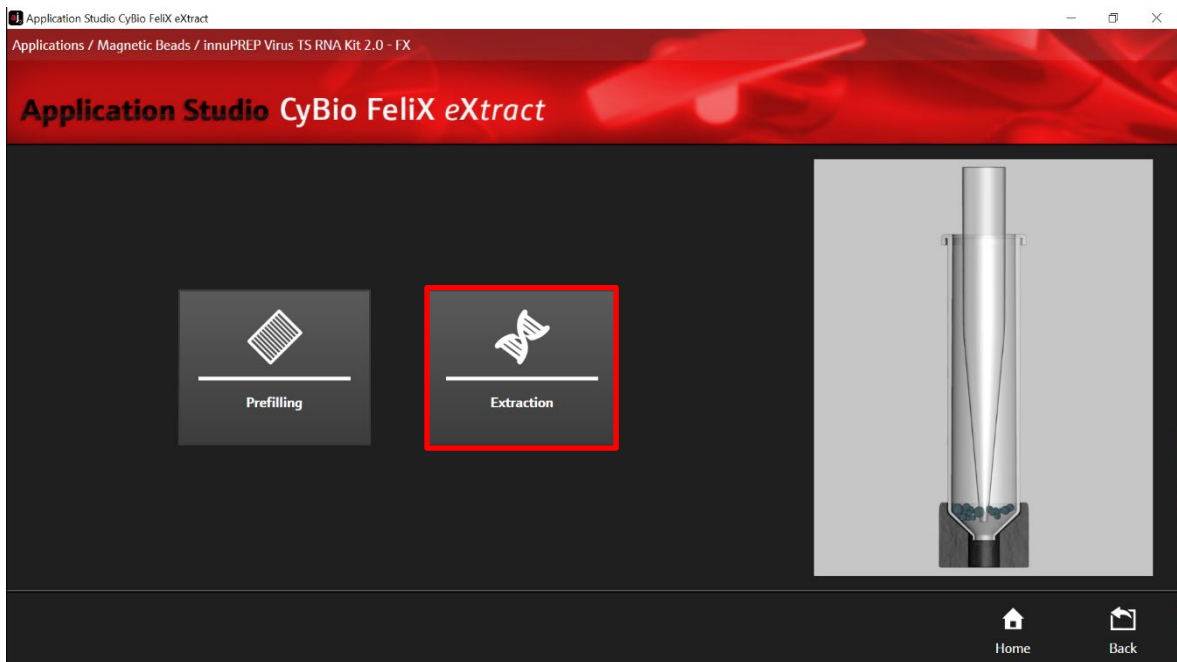

Figure 14: Routine selection in the AppStudio FeliX eXtract: Extraction.
6. Check the correct version number of the protocol (→ see Figure 14).